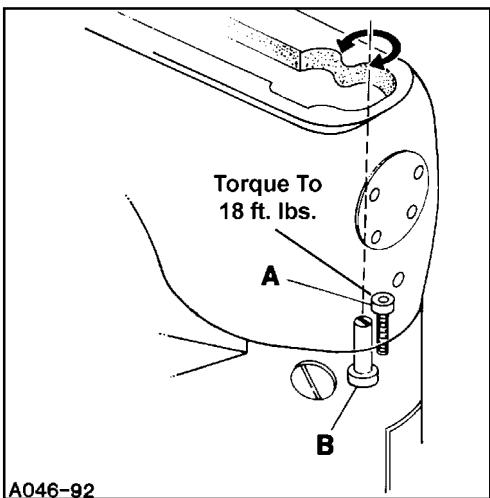

FIG. 5
Remove the top front cover and gasket from the main frame. Loosen cylinder holding screw (A, Fig. 5). Turn eccentric screw (B) clockwise or counterclockwise to move the cylinder so the needles are centered in the needle holes. Tighten screws (A) torque to 18 ft.lbs. and recheck settings.